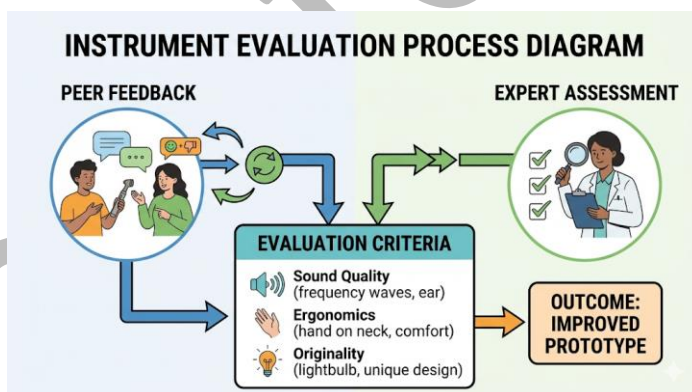

Figure 3.4 Peer and expert evaluation of original instruments
- Figure 3.4 Peer and expert evaluation of original instruments. Suggested AI prompt: “Create a diagram showing peer feedback, expert assessment, and evaluation criteria for instruments.” Search string: “peer expert evaluation musical instruments diagram OER”.